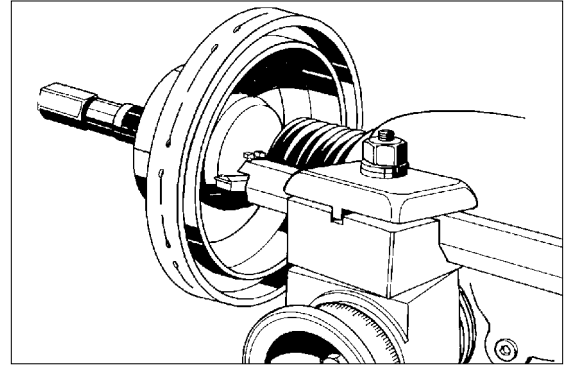

Figure 11 - Positioning the boring bar
5. Position the boring bar by loosening the boring bar clamp nut and sliding the boring bar inward toward the drum until the tool bit is close to the drum (figure 11).